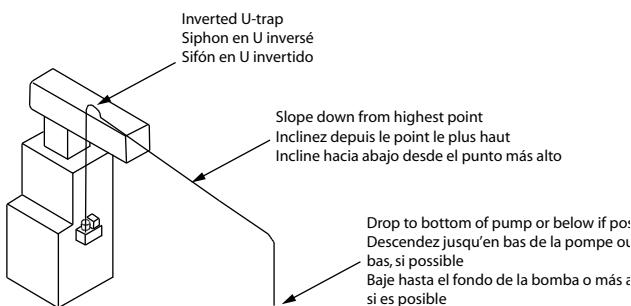

Fig. 6 (EN/FR/ES)
- The discharge line (Fig. 6) should be flexible tubing secured with a hose clamp (not provided) or pipe (3/8 inch I.D. maximum to prevent excessive flow back to unit). From the pump, extend the discharge line straight up as high as necessary (but not above the head/GPH of the pump). From this high point, slope the discharge line down slightly to a point above the drain, then turn down and extend to a point below or approximately level with the bottom of the pump. This will give a siphoning effect, which will improve the efficiency of the pump and will, in most cases, eliminate the need for a check valve. If it is not possible to slope the discharge line down, make an inverted U-trap directly above the pump at the highest point.